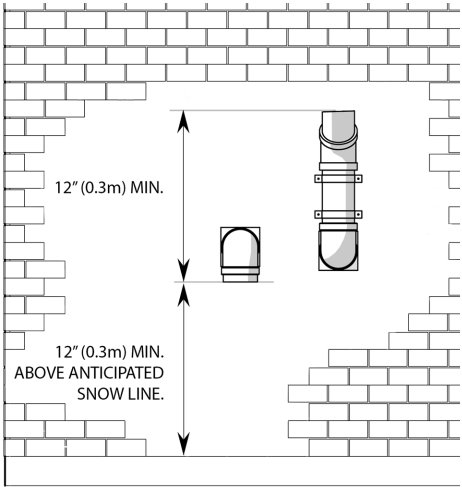
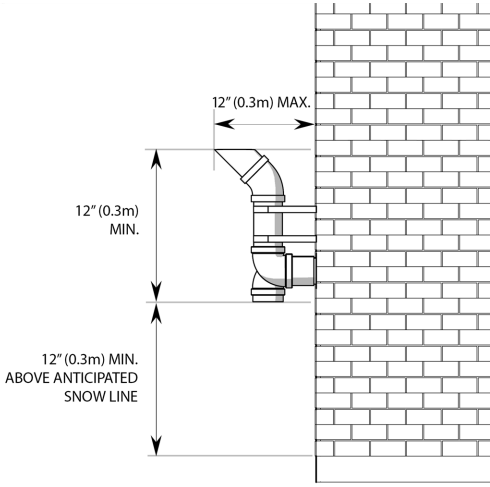
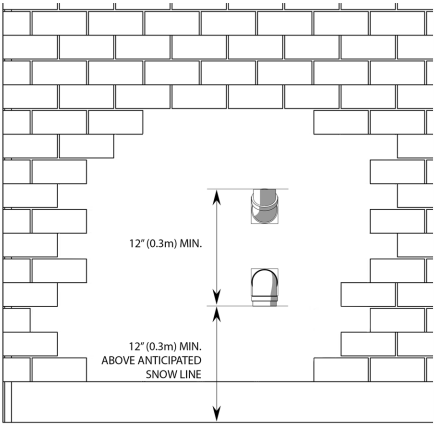
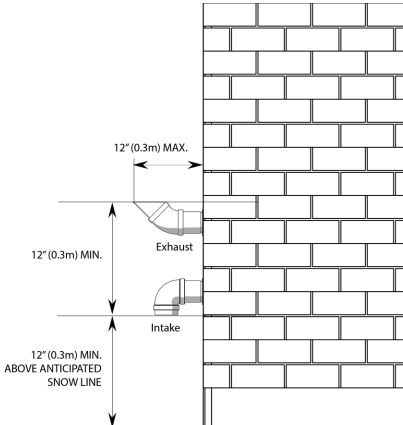

Figure 20 Vent termination clearance--horizontal perforations
Figure 21 Vent termination clearances--horizontal perforations, side view
Figure 22 Vent termination clearance--vertical alignment
Figure 23 Vent termination clearances--vertical alignment, side view
- » (Optionally) Raise the elevation of exhaust termination "periscope style" after passing through the wall, to gain the required clearance as shown in Figure 20 and Figure 21.
- » Use a 45° elbow on the exhaust termination to launch the plume up and off the sidewall (for protection of wall). A short piece of venting cut at 45° gives a horizontal termination protected from wind loads (see Figure 21, and Figure 23).
Important!: Maintain at least the minimum separation of exhaust vent termination from boiler intake air as illustrated in Figure 20, Figure 21, Figure 22 and Figure 23. Failure to do so can result in a dangerous situation where exhaust gasses are re-ingested with combustion air. Damage to the boiler can result from a failure to maintain these separations. Third party vent termination kits and concentric wall penetration kits that do not maintain these minimum separations must **not** be used. Improper installation will void the warranty. Do not use proprietary InnoFlue or PolyPro PP terminals without specific approval from IBC.